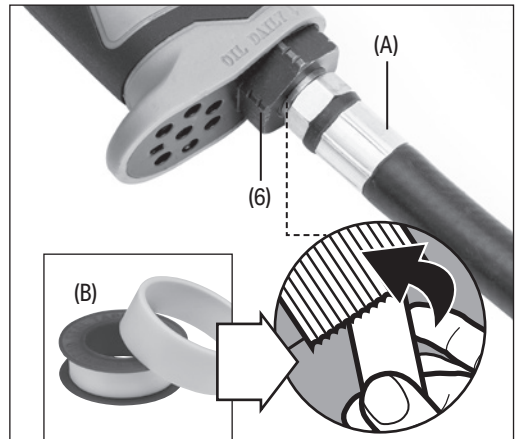

Fig. 2
6.2 Connection To The Air Supply (Fig.2)
- To connect the air impact wrench to an air line, a 1/4" BSP male thread whip hose (A) will be required.
- Wind a length of PTFE tape (B) around the thread of the whip hose.
- Attach the hose via the 1/4" BSP (female) air inlet (6). The connection must be tight for an airtight union.